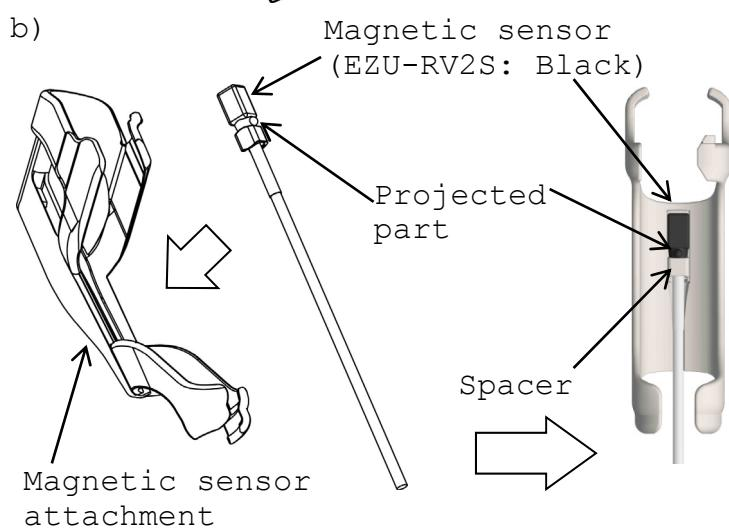

Fig. 9 How to attach the Magnetic sensor
- b) Insert Magnetic sensor into the Magnetic sensor attachment with the correct direction as shown in Fig. 9.